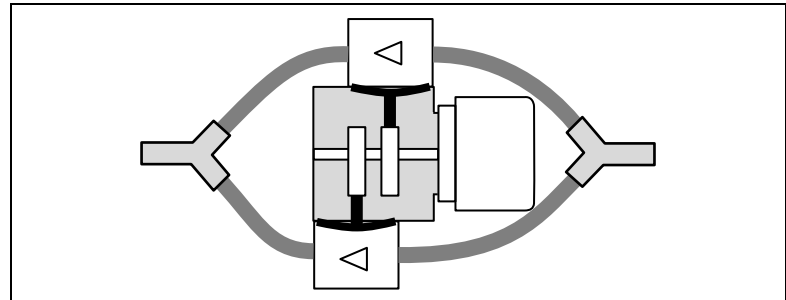

Fig. 13: NFB 100 hose configuration for low pulsation
- ➔ Configure pump head hoses in parallel (see Fig. 13).